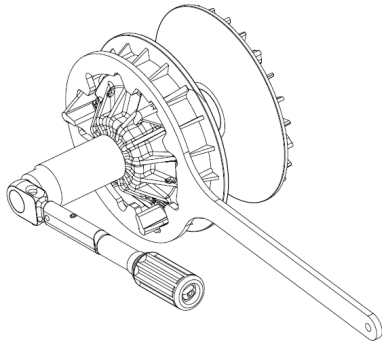

Figure 21
- Use a torque wrench and a 30 mm or 32mm socket (depending on the version of pulley) to tighten the pulley nut ⑳ (for replacement pulleys, see the tightening torque chart by pulley number on the CVTech website – for OEM pulleys, refer to the owner’s manual). See figure 21.